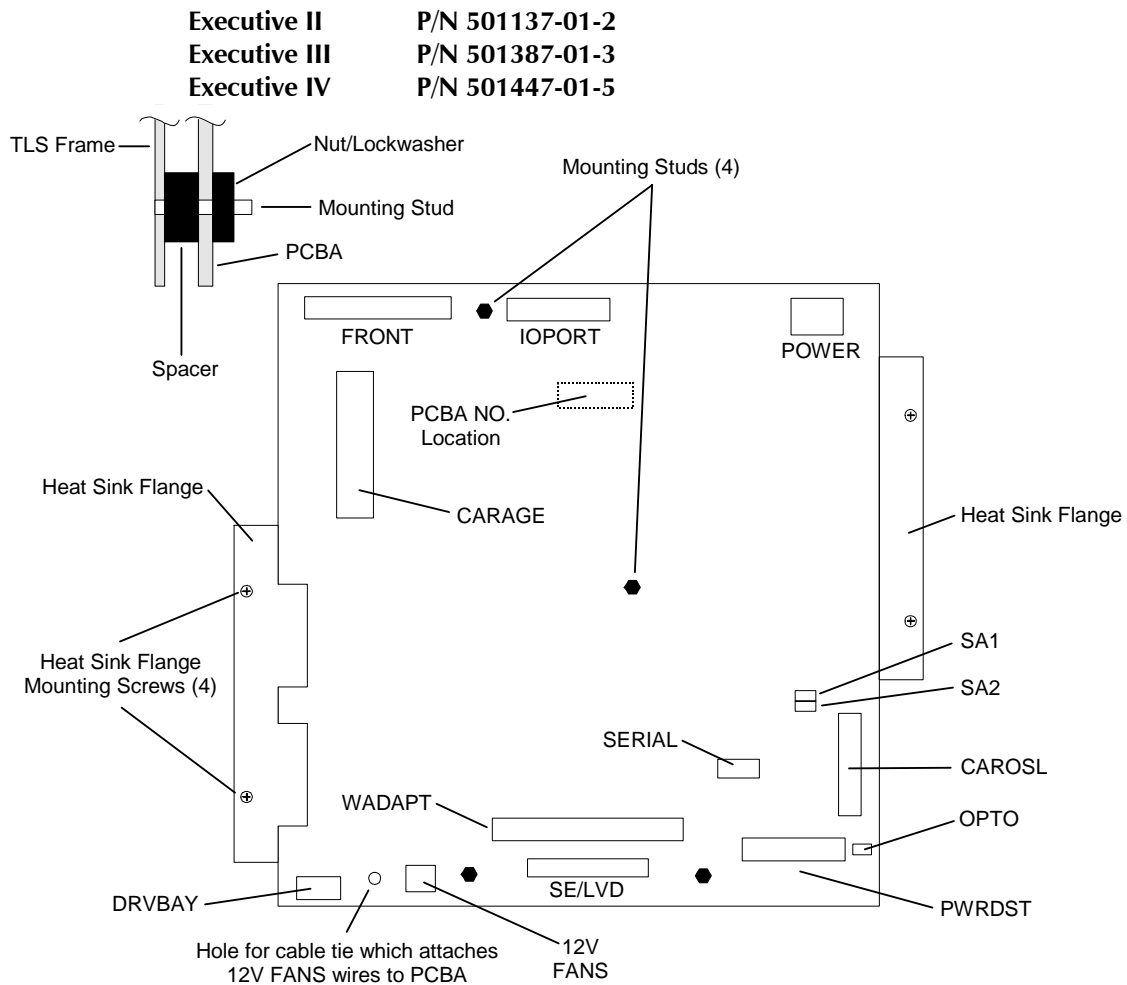
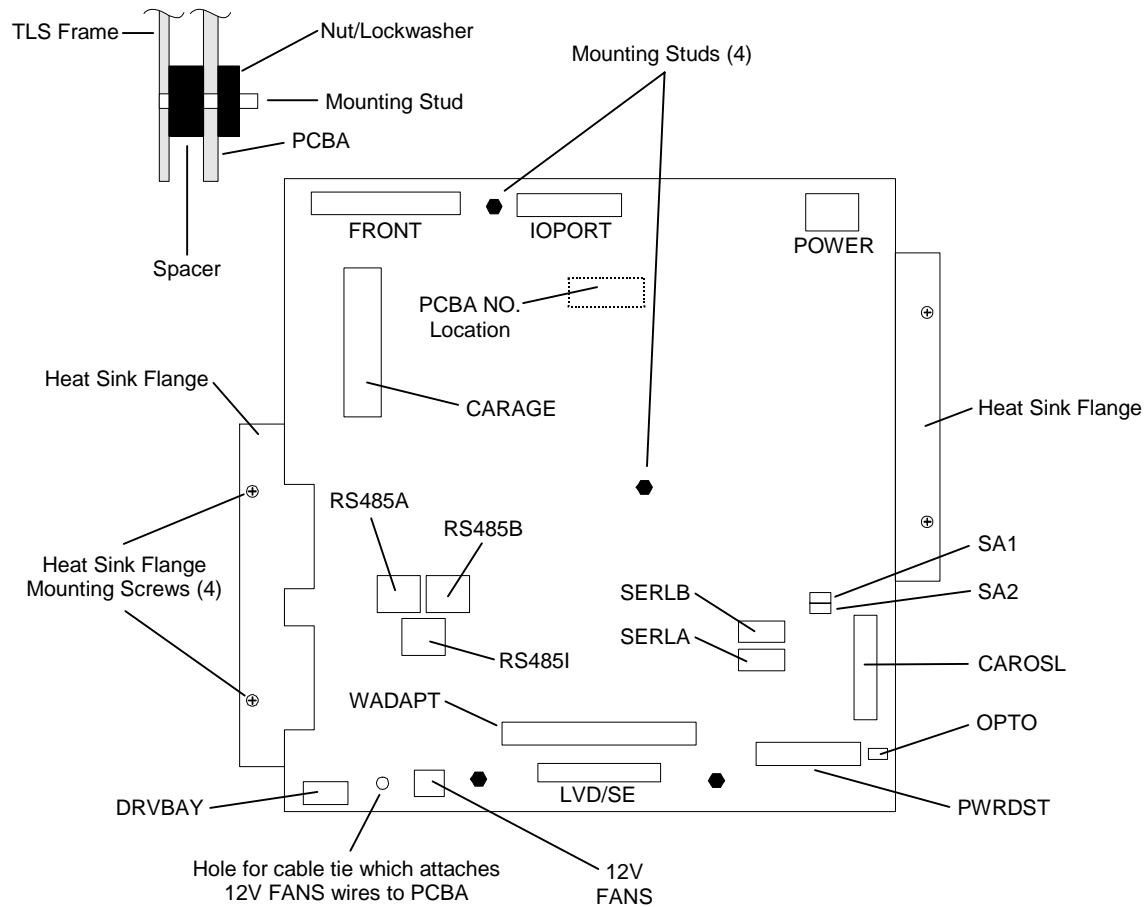

Figure 7-42 Executive II and III PCBA's
Figure 7-43 Executive IV PCBA
4. This step only applies when removing the right side Handler Power Supply. Disconnect the Switch Bracket (Front) Cable and the IOPORT Cable from the Executive PCBA (Figure 7-42). Slide the cables out from under the three clips on
5. This step only applies if the right side Handler Power Supply was removed. Reconnect the Switch Bracket (FRONT) Cable and the I/OPORT Cable to the Executive PCBA (Figure 7-42). Make sure that the connectors are fully inserted, until the locking tabs of the mating connectors are fully closed. Slide the cables under the three clips on the inside rear of the TLS.
Refer to **Figure 7-42** or **Figure 7-43**.
Refer to Figure 7-42 or Figure 7-43.
The connector is not polarity-sensitive or keyed. After the connector is attached to the PCBA, insert a Cable Tie through the hole in the Executive PCBA (Figure 7-42), then secure the Fan Assembly's power cable to the Executive PCBA.